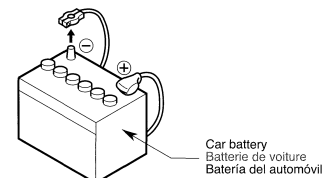

Figure 1 / Figure 1 / Figura 1
3. Be sure to disconnect the battery "⊖" terminal before starting. This is to prevent short circuits during installation (Figure 1).
3. S'assurer de débrancher la borne "⊖" de la batterie avant de commencer. Cela évitera les court-circuits pendant l'installation (Figure 1).